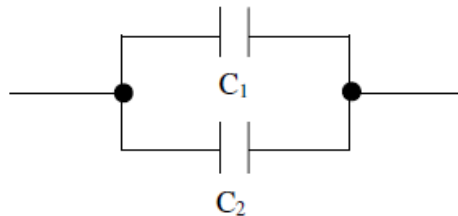

Figure 2: parallel combination
- 5- Disconnect the capacitors, discharge each capacitor as you did before and wire the circuit in parallel as shown in figure 2.